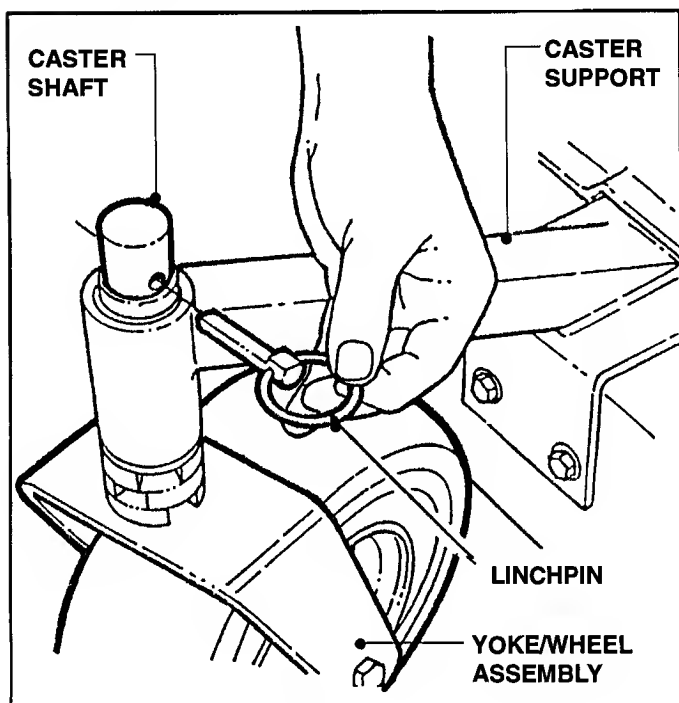

FIGURE 3.3
- A. On a Fixed Deck, if a caster support becomes damaged or bent, pull linchpin from caster shaft and remove yoke/wheel assembly from support. See Figure 3.3.
- If a caster support has been bent out of alignment, remove yoke/wheel assembly as shown in Figures 3.3 or 3.6.